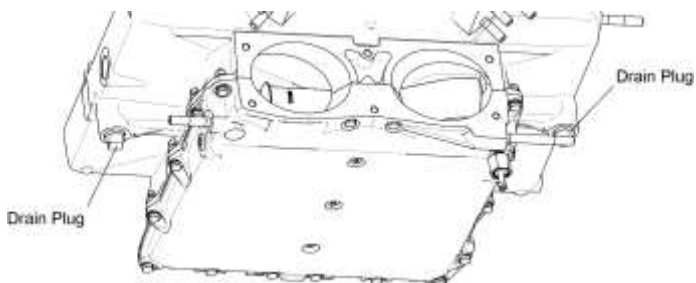
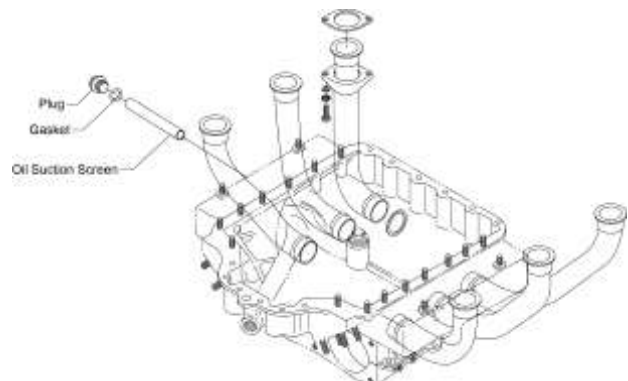

Figure 2
Figure 3
- (1) Put an empty 15-quart (14-liter) capacity container under the drain plugs of the oil sump.
- (2) Remove the safety wire from the square drain plugs and discard the safety wire/cable (Figure 2).
- H. Safety cable/wire the oil sump drain plugs (Figure 2), suction screen plug (Figure 3), and oil filter (if applicable) in accordance with the standard practices per the latest revision of AC43.13-1B or the latest revision of Service Instruction No. SI-1566.
NOTICE: On the TEO-540-A1A (Figure 3) engines there is an oil suction screen in the oil sump. Clean the oil suction screen and replace the oil filter after every 50 hours of engine operation, with each oil change (unless more frequent oil changes are necessary).
- A. Remove and discard the safety/cable wire/cable from the suction screen plug (Figure 3) and oil drain plugs (Figure 2) on the oil sump
- F. Before cleaning the oil suction screen (Figures 3 and 4), examine the oil suction screen for:
- (1) Deformation or openings in the mesh.
- (2) Metal particles, shavings or flakes trapped in the oil suction screen. Refer to the sections: "Identification of Metallic Solids After Oil Servicing" and "Visual Inspection of the Oil Filter Element and Oil Suction Screen" in this chapter.